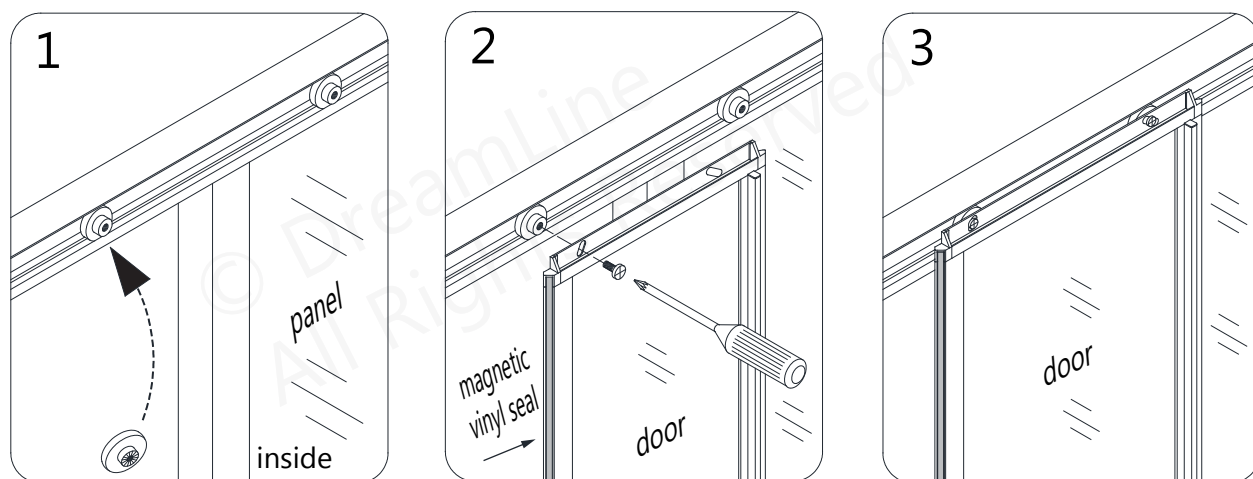
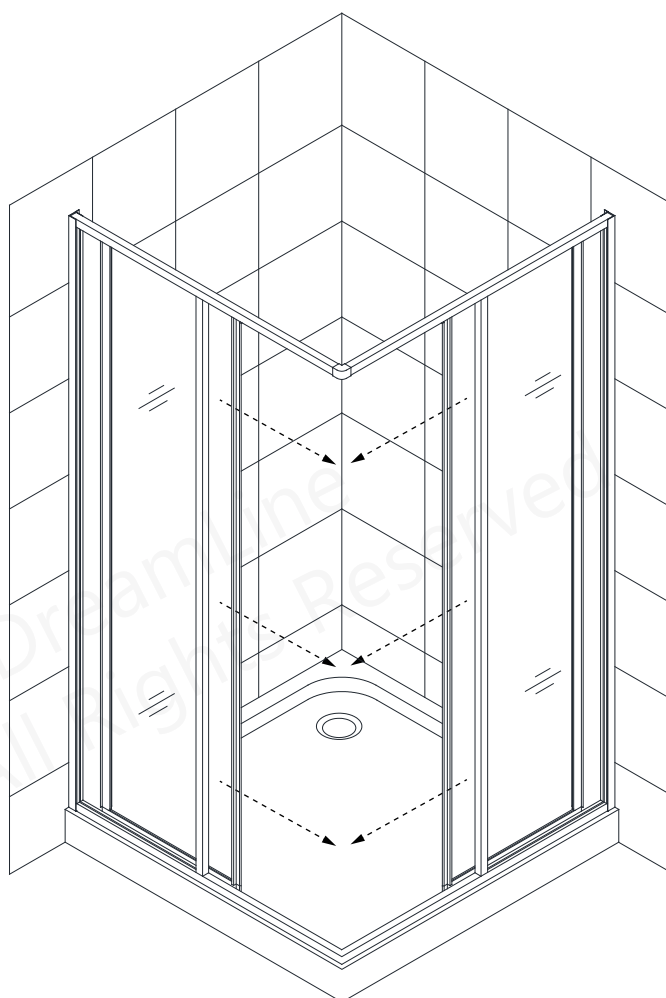

Fig 5a
Fig 5b
5. Insert the **Roller Wheels (#11)** into the groove of the **Upper Guide Rail**, then attach the **Door Glass Assemblies (#03)** to the **Roller Wheels (#11)** using the **M5×8 Bolts (#10)**. Repeat this procedure to attach the **Door Glass Assemblies (#03)** to the **Roller Wheels (#11)** in the **Bottom Guide Rail**. Be sure to install the doors so that the magnetic vinyl seals will meet in the corner. (See Step#6 for details regarding adjusting the rollers.) (**Fig 5a and Fig 5b**)